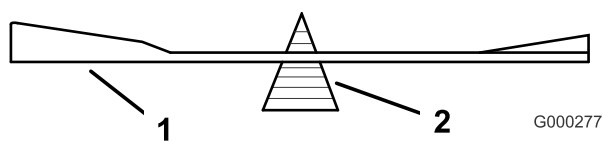

Figure 75
2. Check the balance of the blade by putting it on a blade balancer (Figure 75). If the blade stays in a horizontal position, the blade is balanced and can be used. If the blade is not balanced, file some metal off